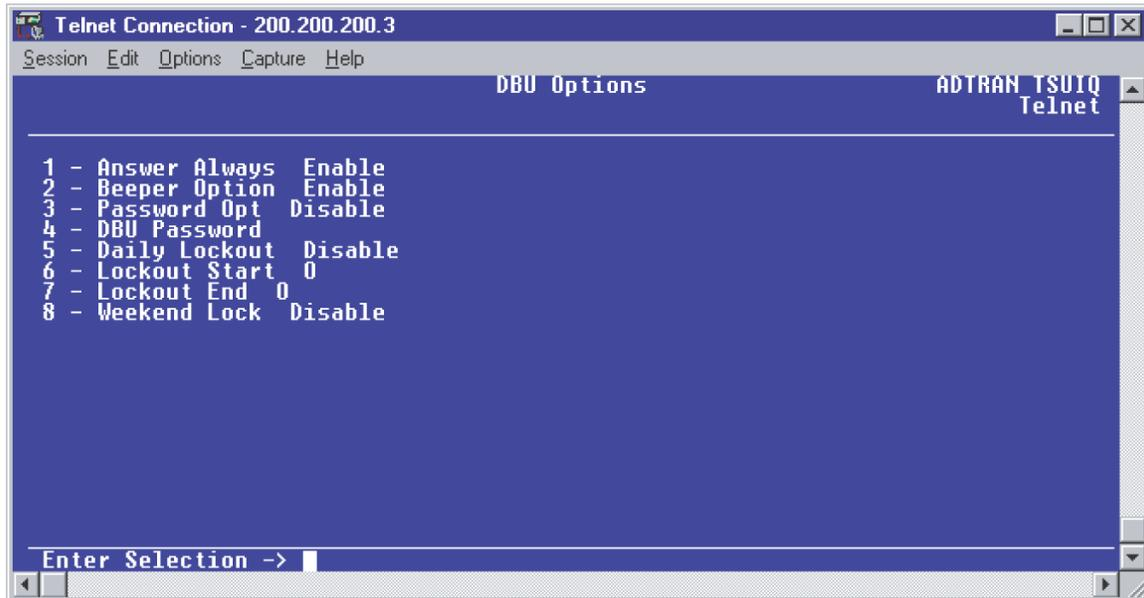

Figure 23. DBU Options Menu
- From the **CONFIGURE DIAL BACKUP** screen (Figure 22), select option 2, **DBU OPTIONS**; then press **<ENTER>**. The screen similar to Figure 23 will appear. The default parameter values for this screen are shown.